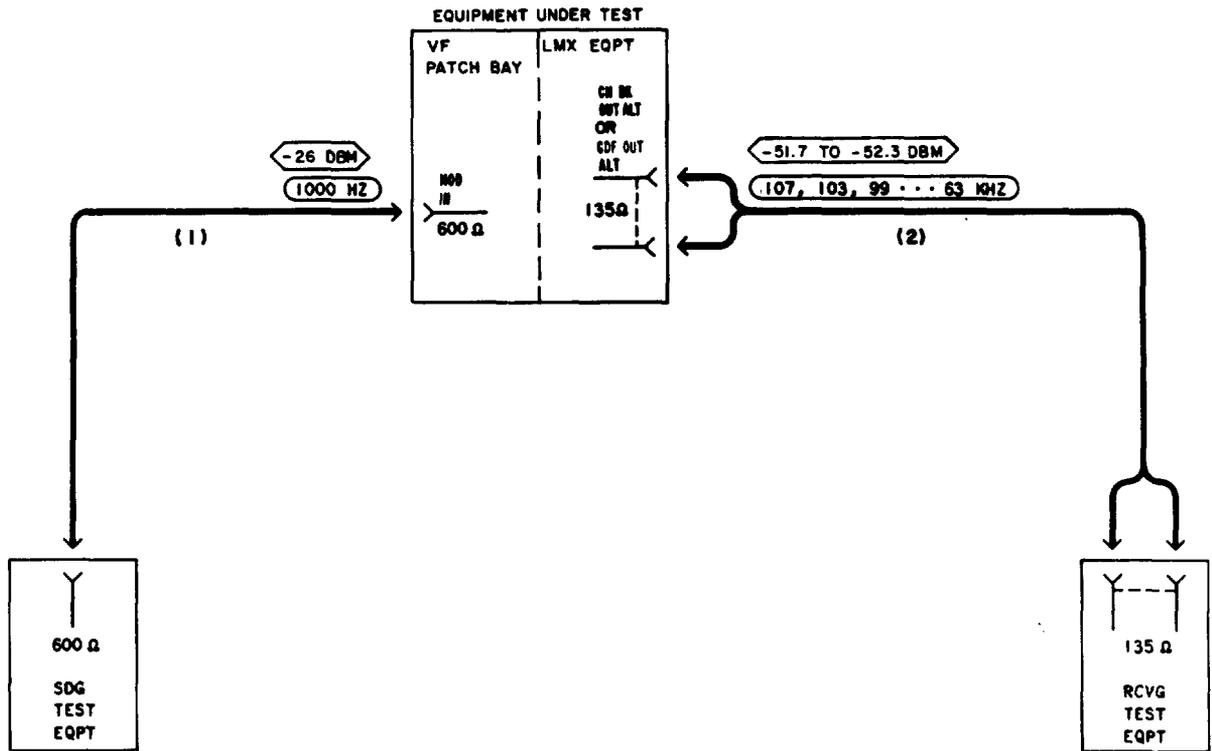

Fig. 2—Patching Diagram—Transmitting Level Adjustment
- 2 Connect the STE to the MOD IN jack for the channel selected in Step 1 [patch (1), Fig. 2].
- 3 At the LMX equipment, connect the RTE to the CH BK OUT ALT (LMX-2) or GDF OUT ALT (LMX-3) jack [patch (2), Fig. 2].
- (1) Replace the applicable plug-in channel modem with a spare unit.
- (2) If the requirement of Step 4 **still cannot** be met, reinsert the channel modem replaced in Step 6(b)(1) and refer to Sections 356-015-500 and 356-015-501, Chart 4, to clear channel filter problems.
- 7 Remove patch (1), Fig. 2.
- 9 At the LMX equipment, remove patch (2), Fig. 2.